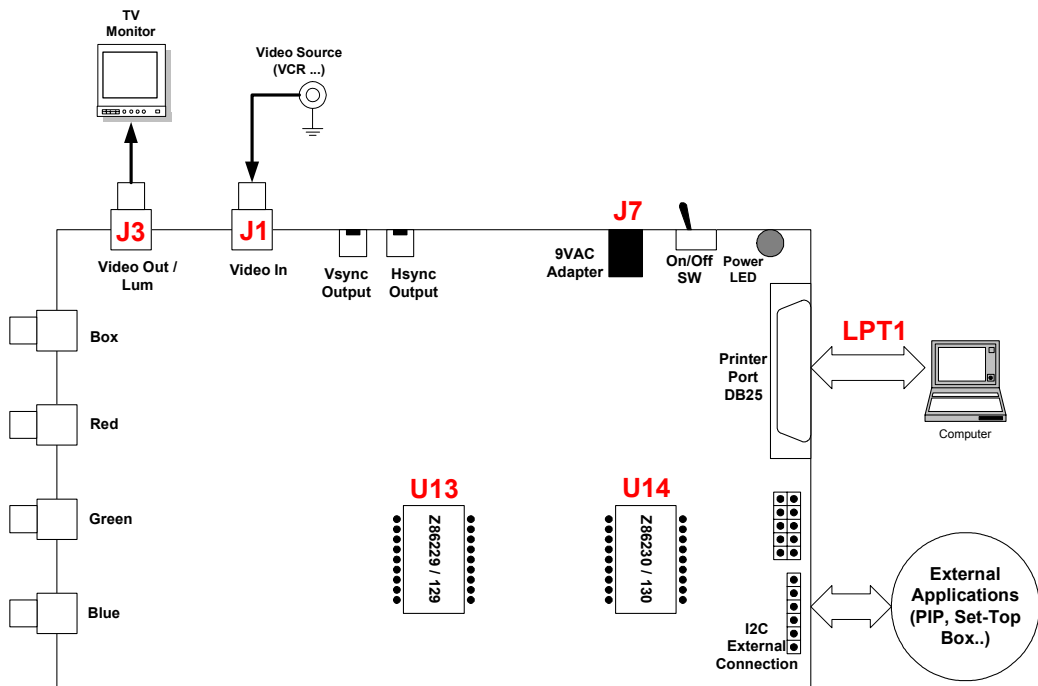

Figure 2. Demo Board System Configuration
- Figure 2. Demo Board System Configuration 3
Figure 2 illustrates a typical system configuration of the Z86229/Z86230 Demo Board.